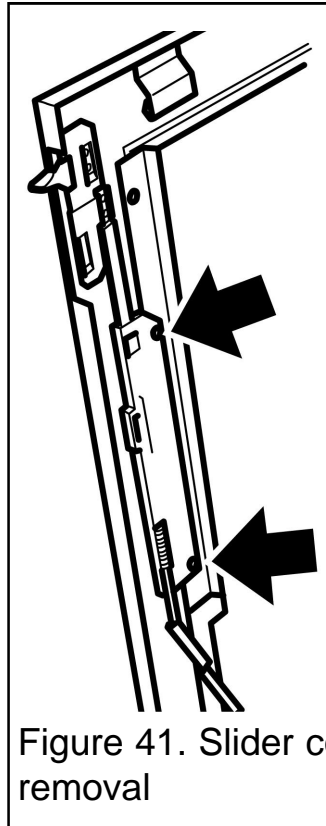

Figure 41. Slider control removal
2. Detach the slider control from the fascia by removing two screws (See figure 41).